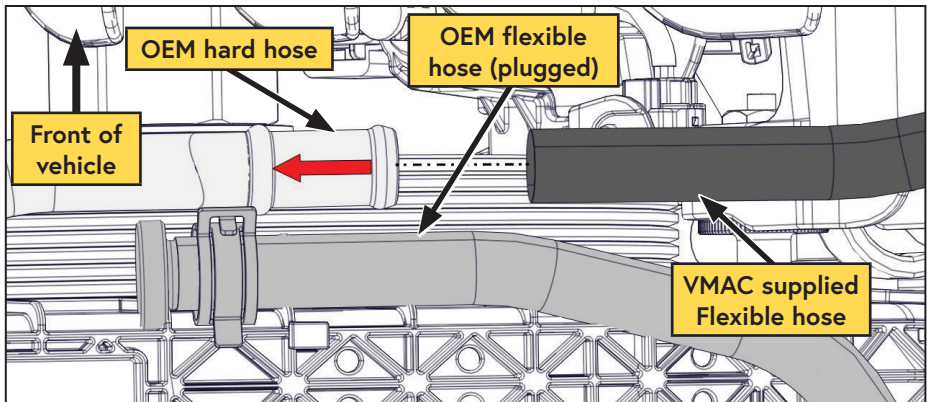

Figure 11 — Plug the flexible hose
- Connect one end of the supplied hose to the metal coolant tube. Ensure the hose is seated against the bead in the OEM hard line and secure using a hose clamp (Figure 11).